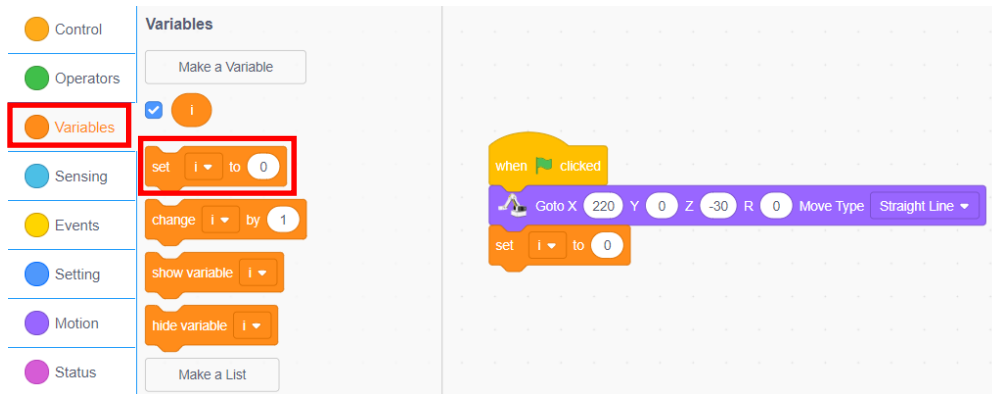

Figure 2.6 Setting the variable
Step 6: Set the variable. Click the "**Variables**" tab, drag the "Set i to 0" block to the code area, and put it together with the previous block, as shown in Figure 2.6.